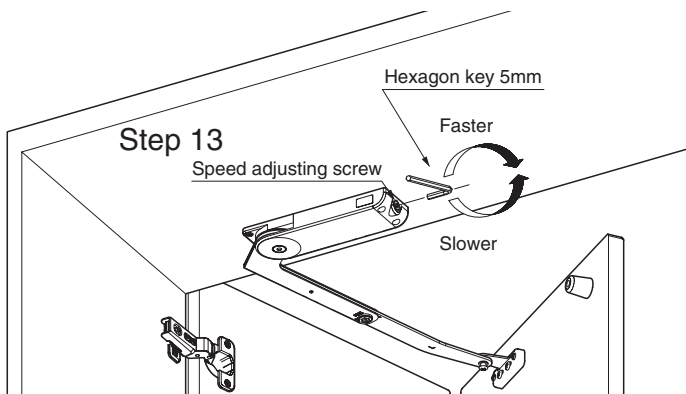

Fig. 11. Adjustment of door opening and closing speed (for right-hand side)
step13 Opening and closing the door, adjust the door opening and closing speed with the speed adjusting screw of the body backside. Speed adjustment is carried out with the 5mm hexagon key (Fig. 11).